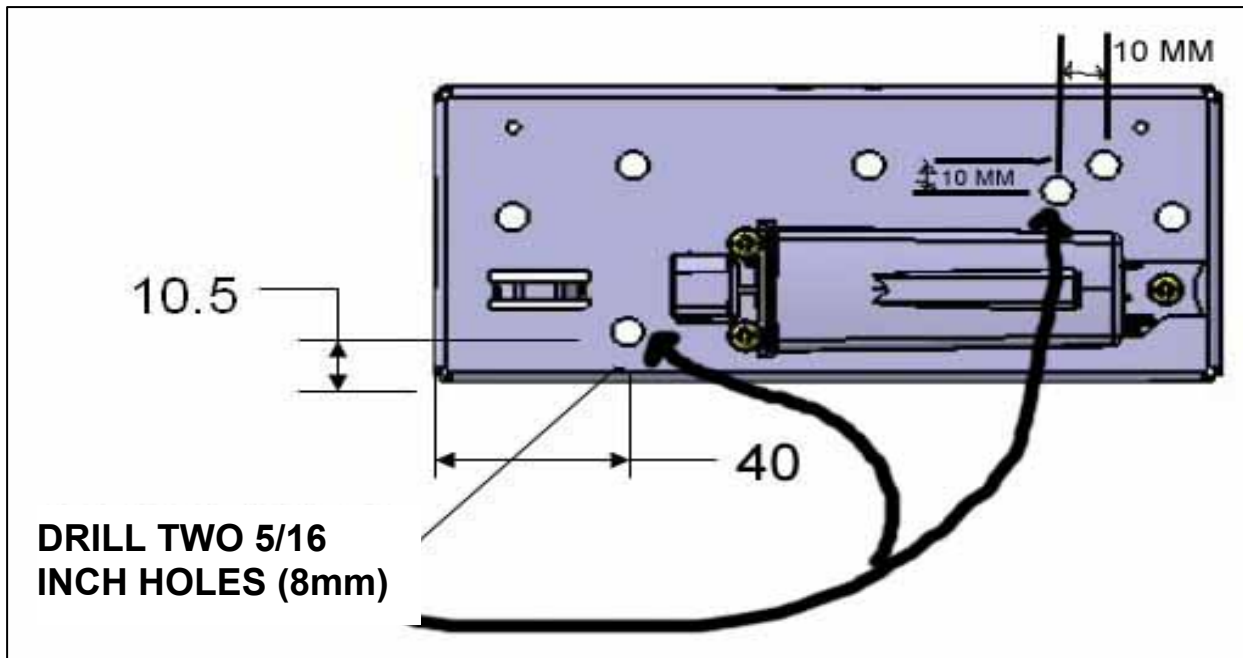

FIGURE 1
1. Remove Beru antenna support located in the front wheelhousing (Refer to figures 1 and 2).
2. Drill two 5/16 inch (8mm) holes into the support. Refer to figure 1 for holes location.